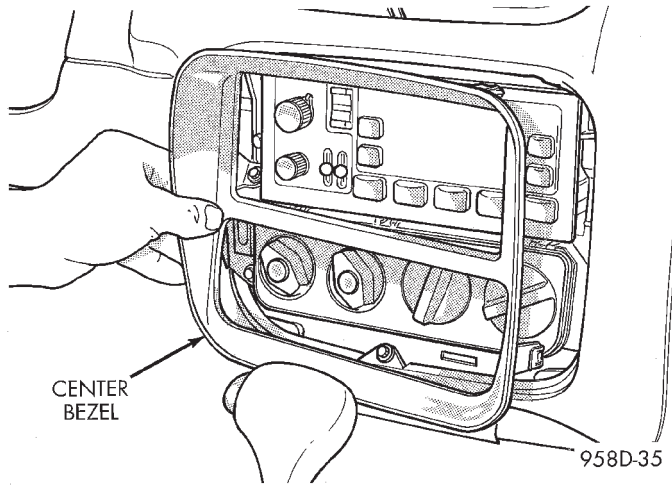

Fig. 24 Installing Center Bezel
(23) Install center bezel surrounding radio and climate control panel from top cover of instrument panel (Fig. 24).